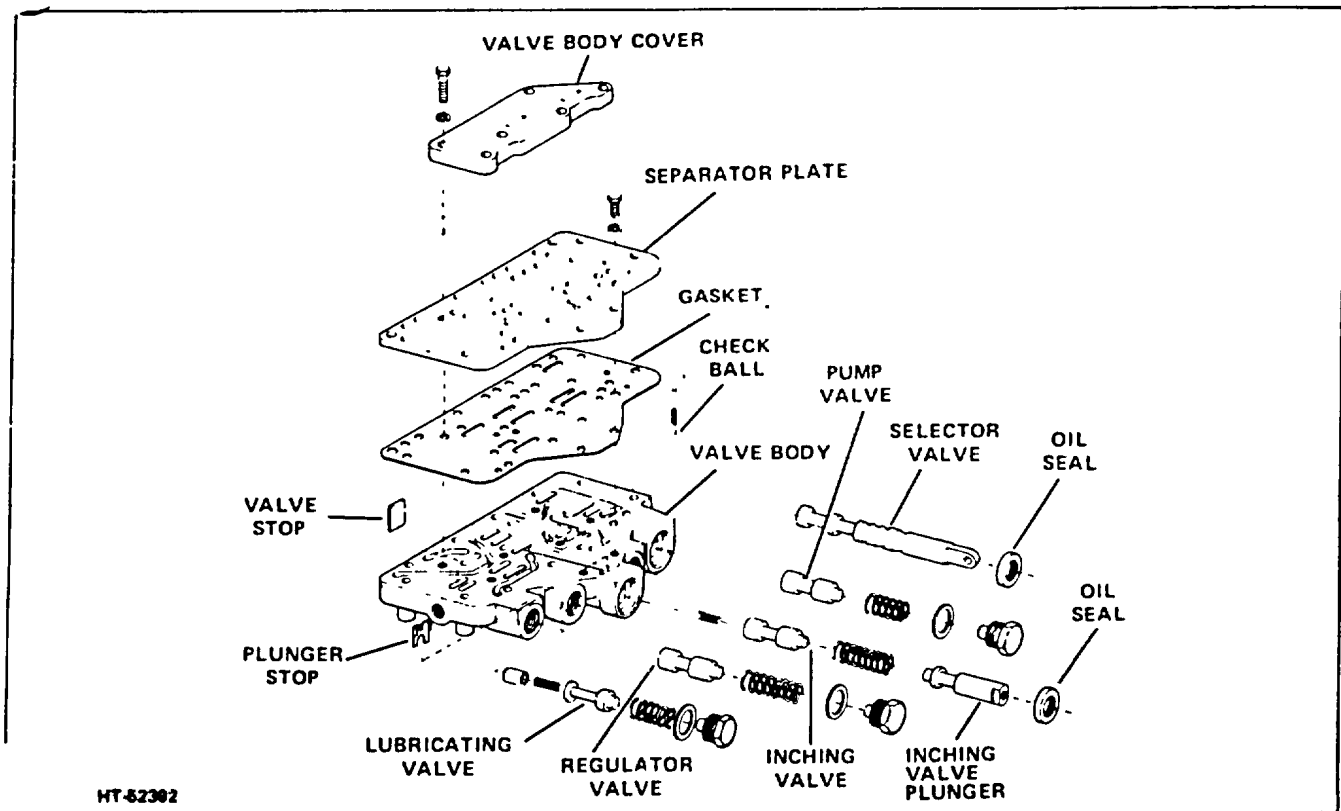

Figure 17. Control Valve - Exploded View
2. Refer to Figure 17 and remove the cover.